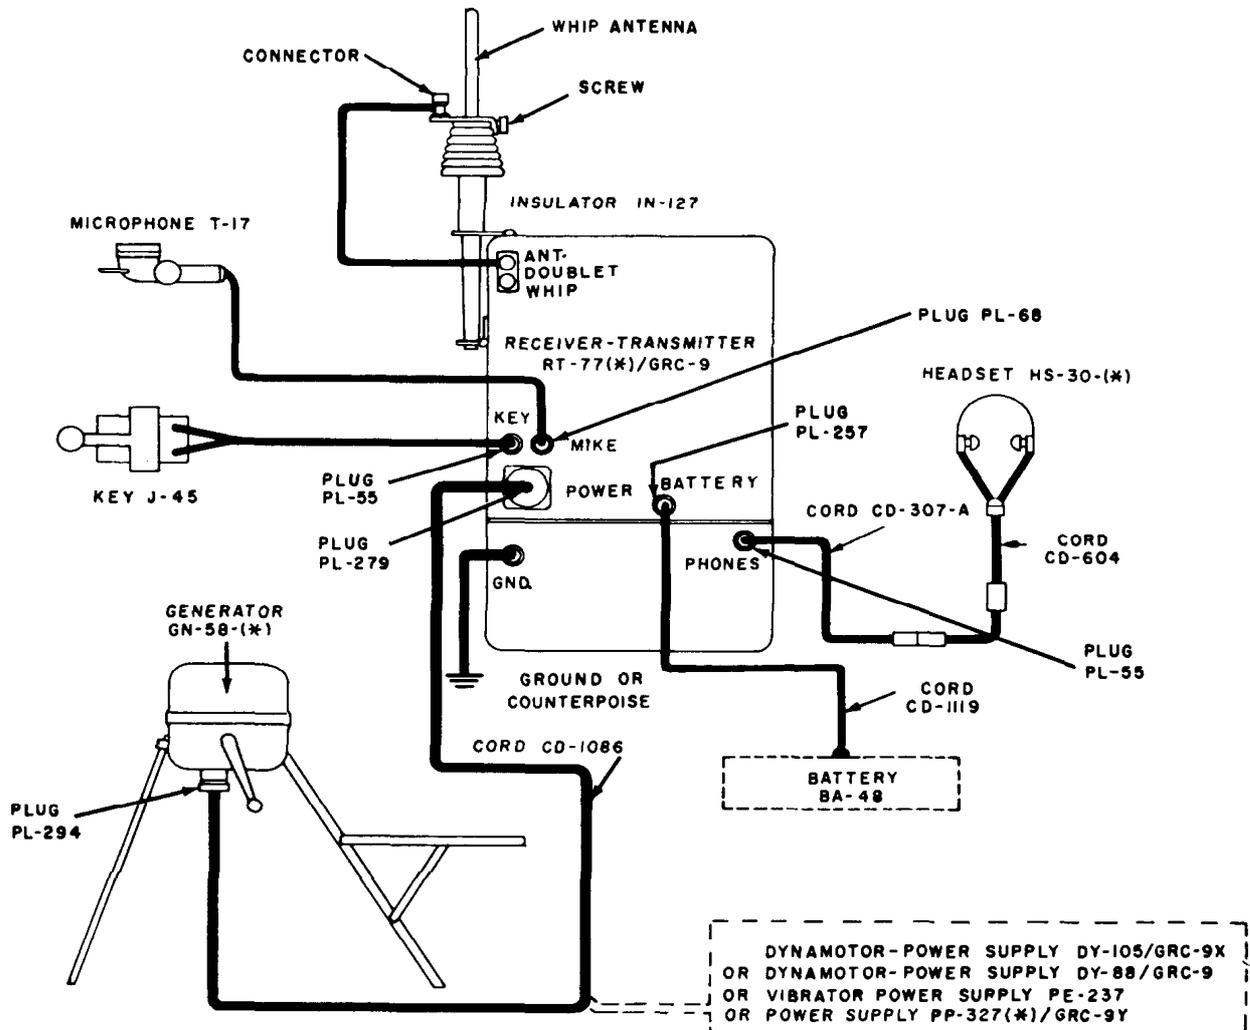
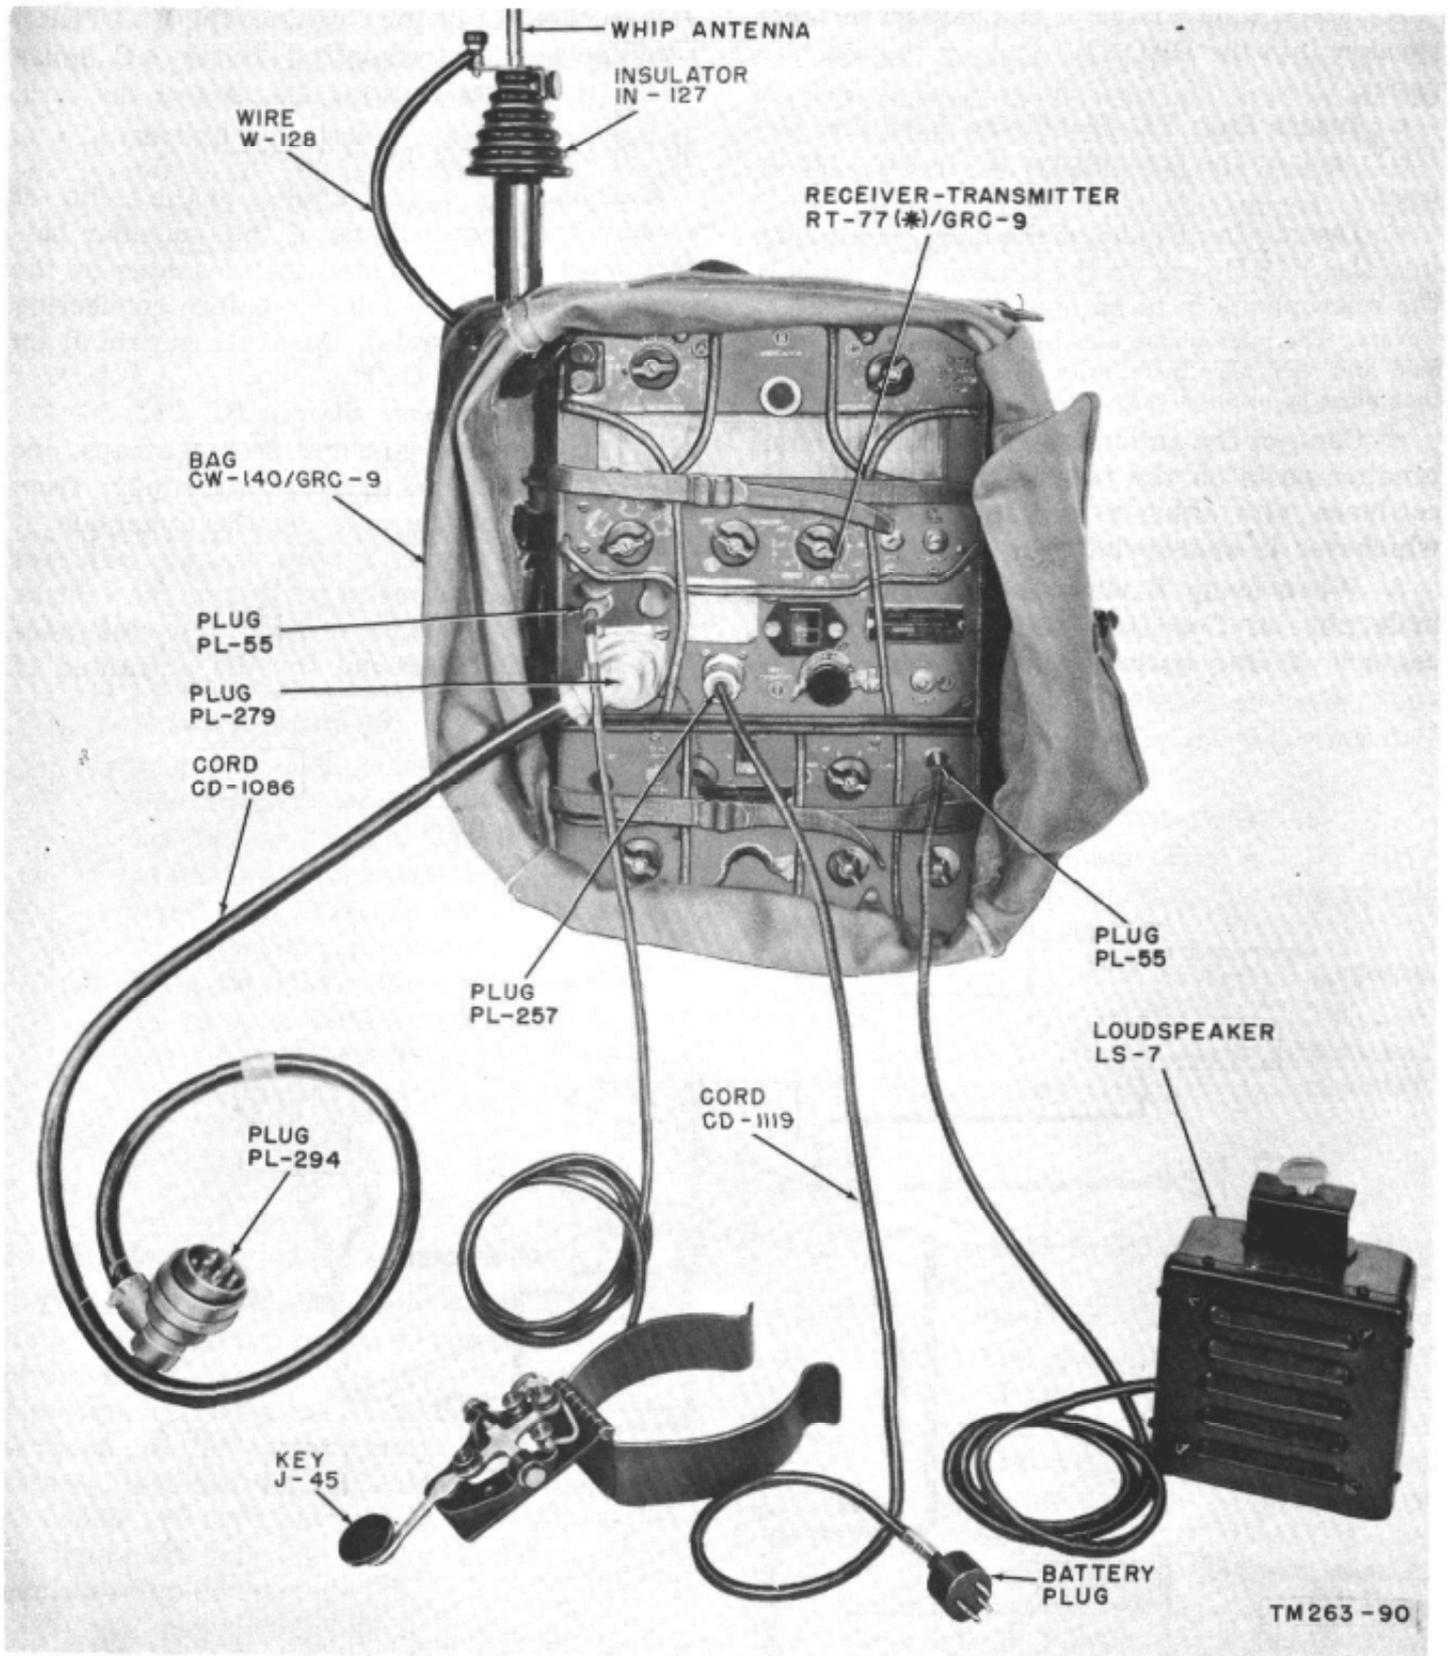

Figure 41. External connections, line drawing.
Figure 42. External connections to Receiver-Transmitter RT-77(\*)/GRC-9.
- (1) Insert two Legs LG-3 or LG-3-B upward through the metal loops on the side of the generator power supply which has the order number plate on it. Be sure that the flat metal retaining springs fit into the hollows inside the legs.
- (2) Rest the generator power supply on the two legs and slip the bottom of the attachment of Leg LG-2-A into its retainer on the opposite face of the generator power supply. Drop the metal loop over the top of the attachment on the leg.
- (3) Loosen the thumbscrew on the bottom plate covering the power cable socket and connect male Plug PL-294 (fig. 41) of Cord CD-1086 (7 feet) to the gen-
Connect all operating components of the radio set in accordance with the cording diagram shown in figure 41 and the illustration in figure 42. Connect the cords used with the radio set as follows: